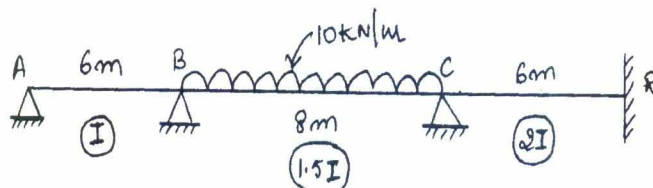

Fig. Q3
- 3 Analyse a continuous beam shown in Fig.Q3 using moment distribution method. Sketch, SFD and BMD support 'B' and 'C' settles by 8mm and 3mm respectively  $EI = 2 \times 10^4 \text{ kN/m}^2$ .